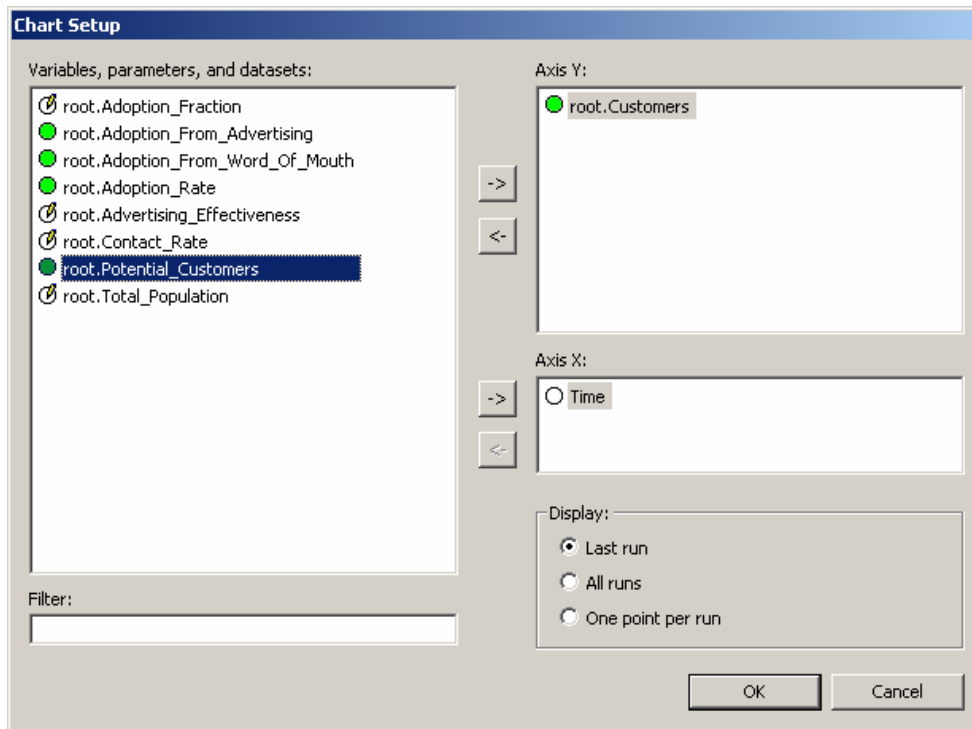

Figure 167. Chart Setup dialog box
1. Right-click the chart window and choose *Chart Setup...* from the popup menu. The *Chart Setup* dialog box is displayed (see Figure 167).